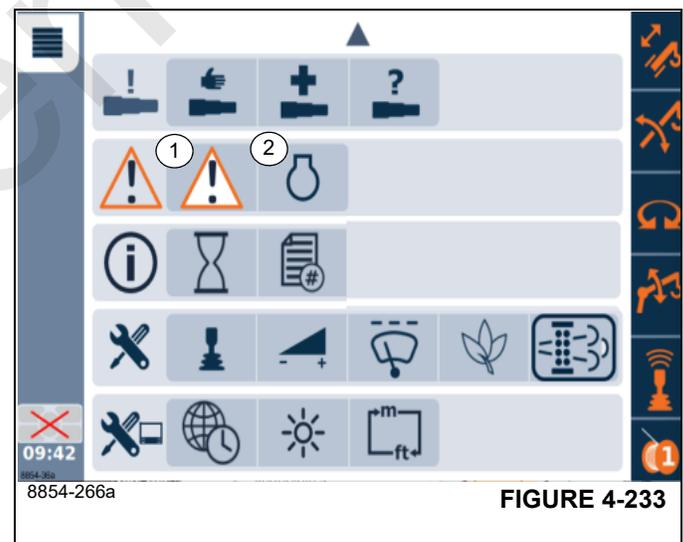
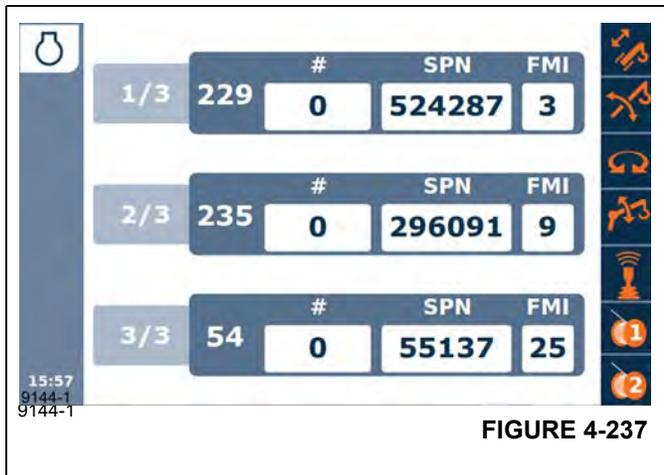

FIGURE 4-233
FIGURE 4-237
Select the Crane Faults Icon (1), (Figure 4-233) under the Faults Menu Group to view active crane fault codes.
1. Open the fault list screen (Figure 4-233) or the engine faults screen (Figure 4-237) and highlight the fault you're interested in getting more information about.